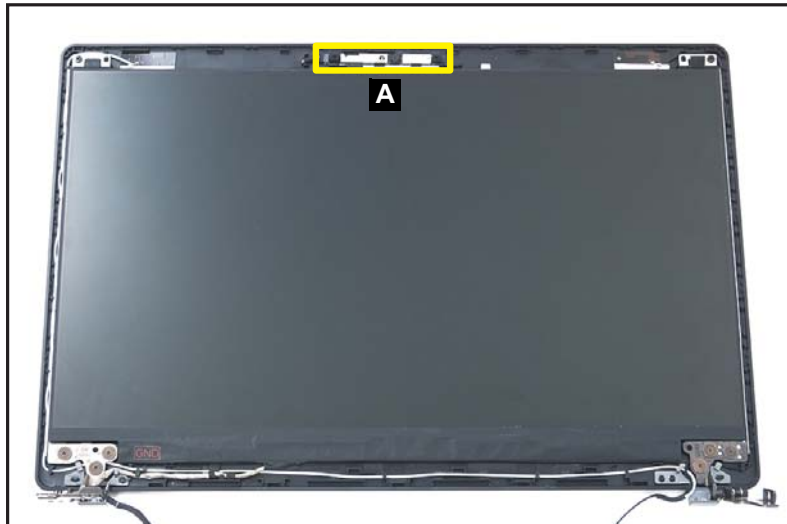

Figure 1-55. Camera Connector Location
1. Find the camera module (A) on the LCD cover (Figure 1-55).